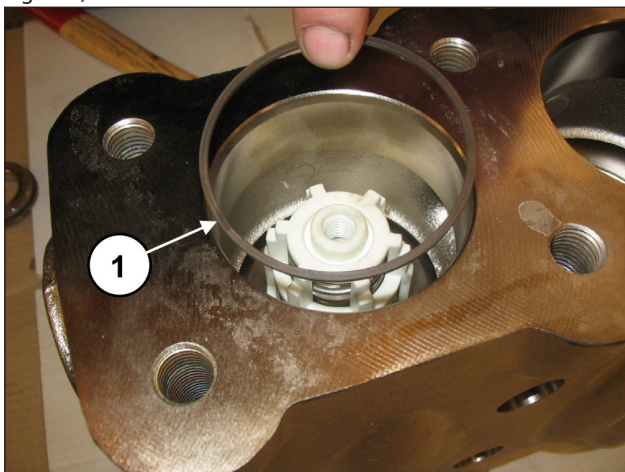

Fig. 120
Insert the back-up ring, exploded view pos. 16 (pos. ①, Fig. 120).